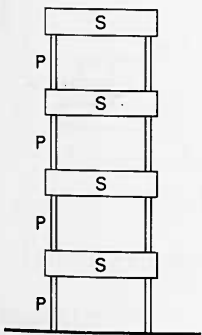

Figure A117
- 48(R)** A vertical building is built from four very heavy identical concrete floor slabs, S, supported by light, slender steel pillars, P, as shown in figure A117. The architect needs to know the stress in the pillars on different floors.